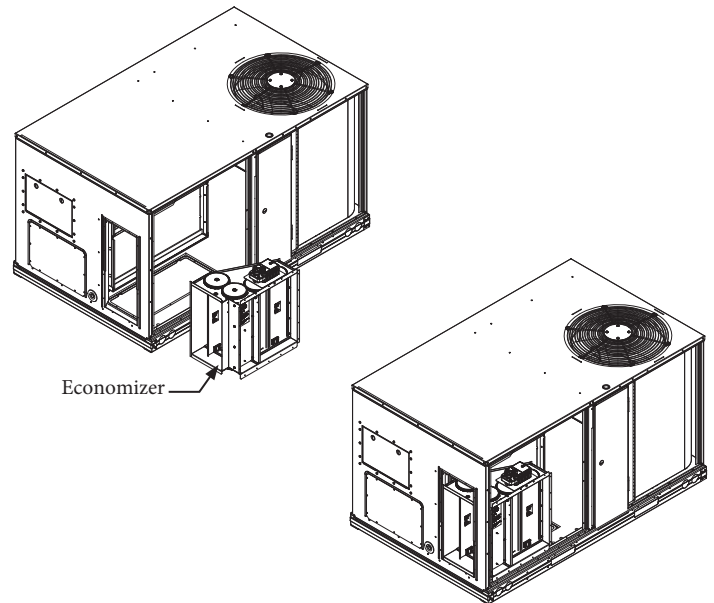

Figure 4 – Economizer Installed in R/A Section
Step 6: Attach O/A panel as shown in **Figure 4**, use sheet metal screws no longer than #10-16 5/16" – 11 needed. Economizer is still sitting on R/A cover in unit, no fasteners needed.